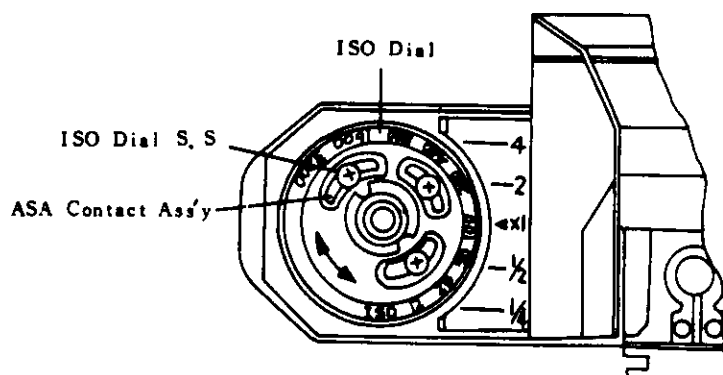

Fig 62
(1) Automatic Exposure Adjustment.
- ① Set the EE Tester (Multi Camera Tester).....ASA100, K=1.3.
- ② Remove the ASA Dial Cover (161432).
- ③ Set the camera to be tested.....Auto, ASA80, F5.6.
- ④ Loosen three ISO Dial Set Screws (63913022), and adjust Auto Exposure by changing the position of ASA Contact Ass'y (A02436). See (Fig 62)